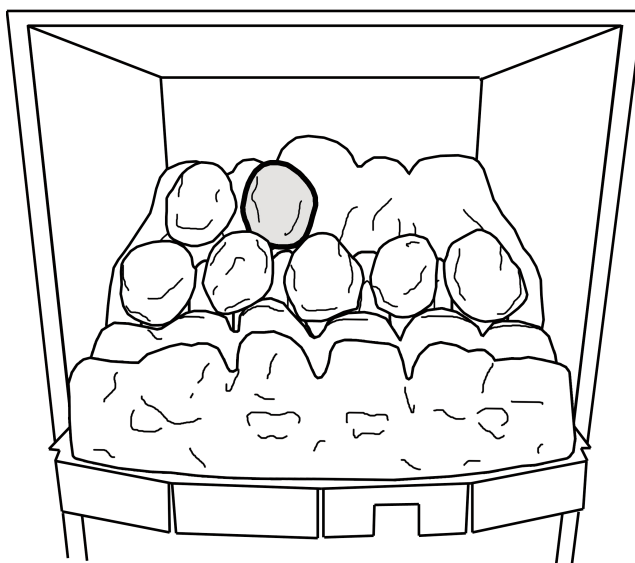

Figure 9. Third row "Coal G"
10. Hold coal 'G' upright with the arrow pointing to the top. Locate coal 'G' as shown in figure 9.